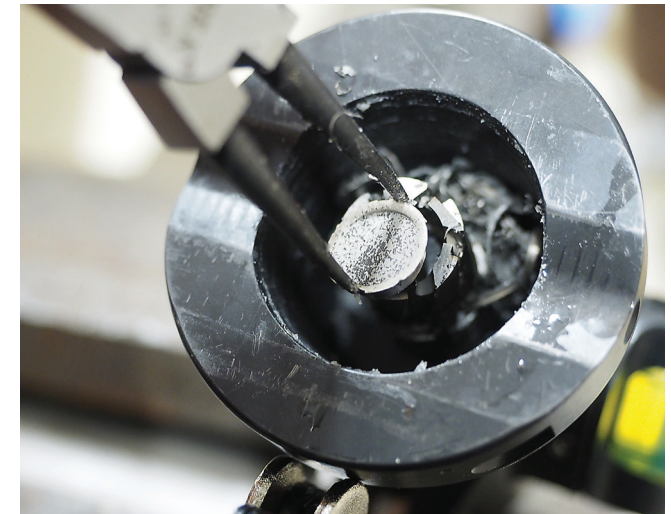

Fig. 9.2 IMPORTANT! REMOVE the slug and swarf with pliers.
9.2 Inspect inside the cutter assembly for the presence of a slug. If present, REMOVE the slug from the cutter with pliers (**Fig 9.2**).